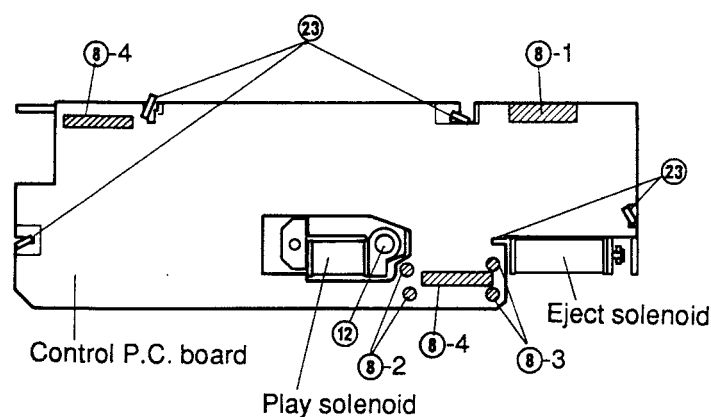

Figure 11
- (2) Remove solder ⑧-1, and remove the parallel wire (5P) from the control PC board as shown in Figure 11.
- (1) Remove the two solders ⑧-2 as shown in Figure 11.
- (2) Remove one screw ⑫ and remove the solenoid as shown in Figure 11.
- (3) Mount the new solenoid following the removal steps in the reverse order.
- (1) Remove two solders ⑧-3. Take care not to lose the tube that protects the wire. (Refer to Figure 11.)
- (1) Remove seven solders ㉑ and remove the three parallel wires and the wires of the eject solenoid and of the play solenoid as shown in Figure 11.
- (2) Remove the claws ㉒ and remove the PC board as shown in Figure 11.
- (3) After replacing the old PC board with a new one, mount it following the removal steps in the reverse order.